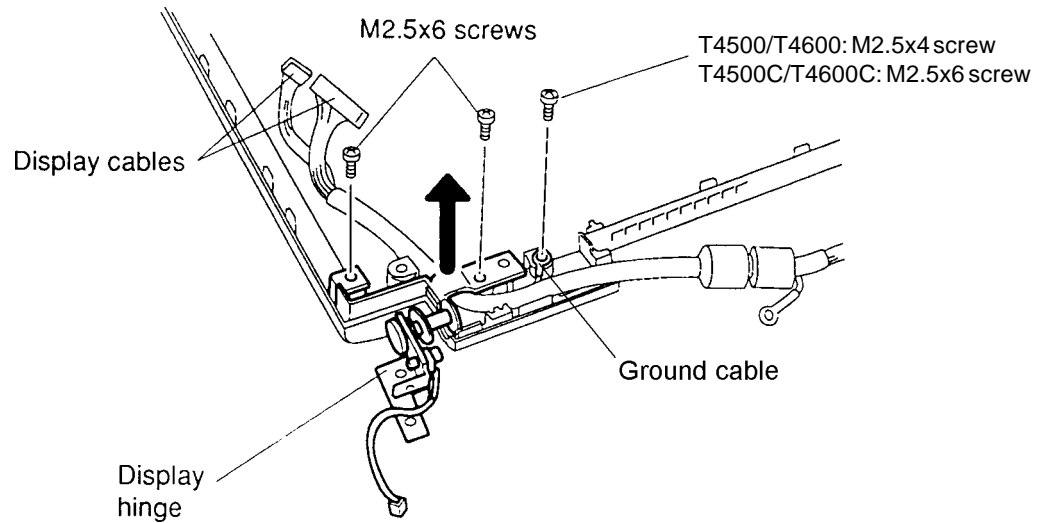

Figure 4-49 Removing the Display Cables
4. To remove the pink and black **display cables**, remove the **two M2.5x6 silver screws** securing the **display hinge** (Figure 4-49).
5. Remove the **one M2.5x4 screw** (T4500/T4600) or **one M2.5x6 screw** (T4500C/T4600C) securing the ground cable (Figure 4-49).
6. Remove the **display hinge** and lift off the **display cable** (Figure 4-49).
To install the computer's FL inverter cable, display cables and display sensor switch, follow the steps below and refer to Figures 4-49 through 4-51.
2. To install the pink and black **display cable**, place the cable under the hump in the display hinge and secure the hinge with **two M2.5x6 screws** (Figure 4-49).
3. Secure the **ground cable** with **one M2.5x4 brass screw** (T4500/T4600) or **one M2.5x6 screw** (T4500C/T4600C) (Figure 4-49).